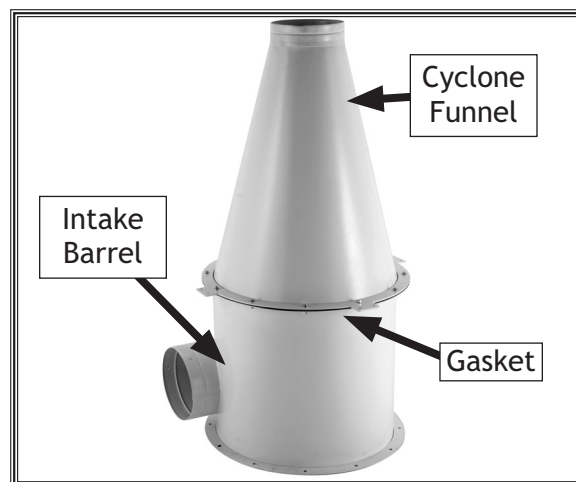

Figure 15. Cyclone funnel attached to intake barrel.
3. Attach the cyclone funnel to the intake barrel with a barrel gasket between the two, as shown in **Figure 15**, with (12) $\frac{5}{16}$ "-18 x 1" hex bolts, (24) $\frac{5}{16}$ " flat washers, and (12) $\frac{5}{16}$ "-18 hex nuts.